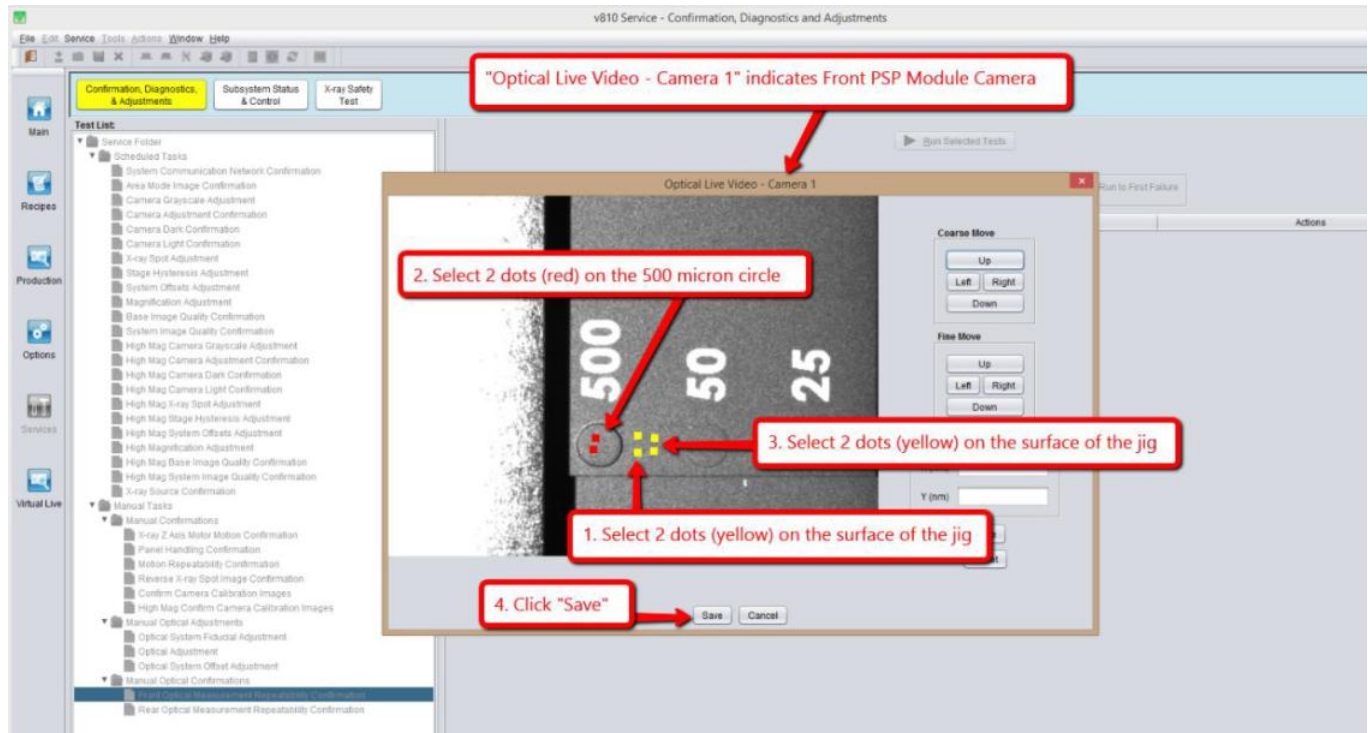

Figure 30 Adjustment Points
23. Select the points as indicated in Figure 30. Total of 6 points require to be select as shown in the Figure 30.